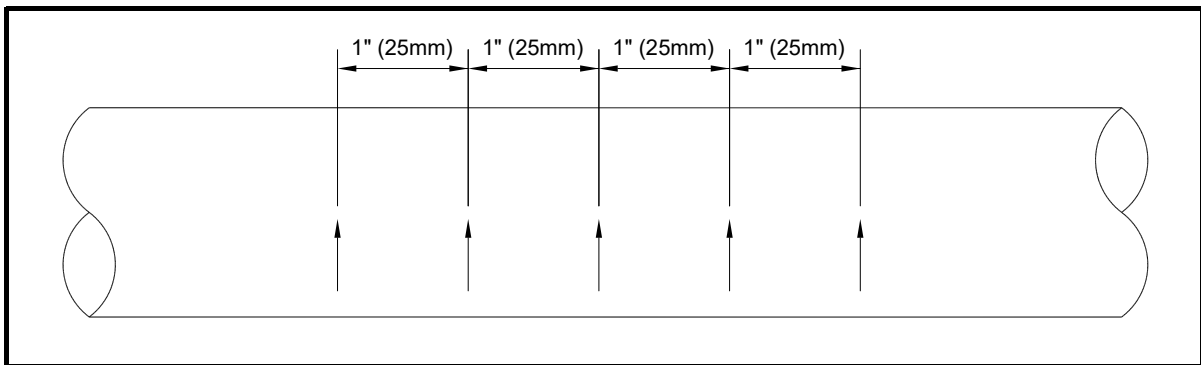

Figure 1-3: Measuring Thickness Along the Pipe Axis
2. Clear rust or loose paint and measure the wall thickness at five points along the pipe axis at 25 mm (1-in.) intervals using an ultrasonic thickness gage, as shown in Figure 1-3 below. Check each point three times and record the mean values. If the maximum variation between the five points exceeds 0.25 mm (0.010 in.), find another location.